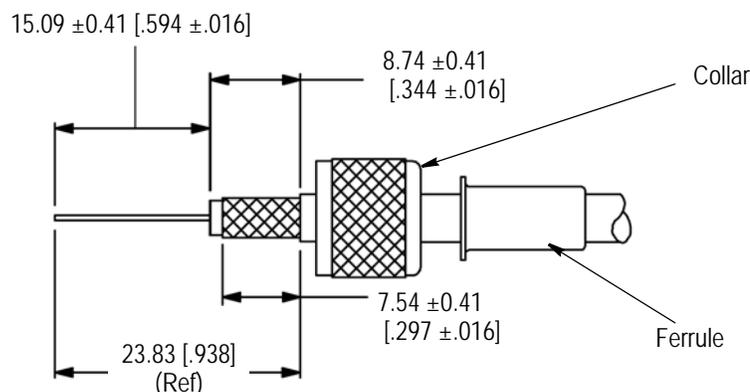

Figure 2
1. Slide ferrule onto unstripped cable; then slide collar onto cable. Strip cable using the strip-length dimensions in Figure 2. DO NOT nick or cut the cable braid. The center conductor must be straight and free of burrs.